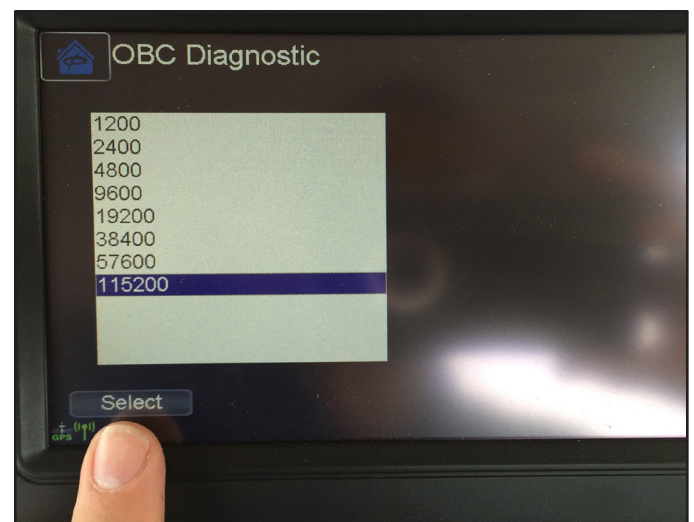

Figure 10 – Selecting 115200 Baud Rate
10. From the displayed drop-down menu, *highlight 115200 and press the Select icon. It is important to select 115200 since a lower baud rate will be insufficient for the data being generated by the SafetyDirect® web portal processor by Bendix CVS. See Figure 10.*